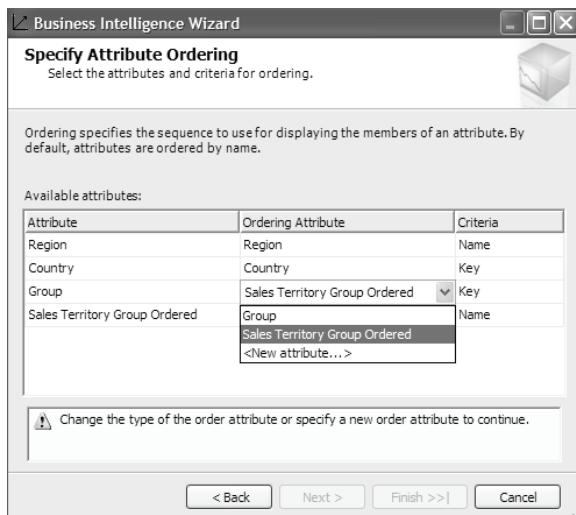

Figure 4.12 Use the BI Wizard to set up custom attribute ordering in a single pass.
2. In the *Choose Additional Functionality* step, select *Specify attribute ordering* and click Next to advance to the *Specify Attribute Ordering* step (Figure 4.12).